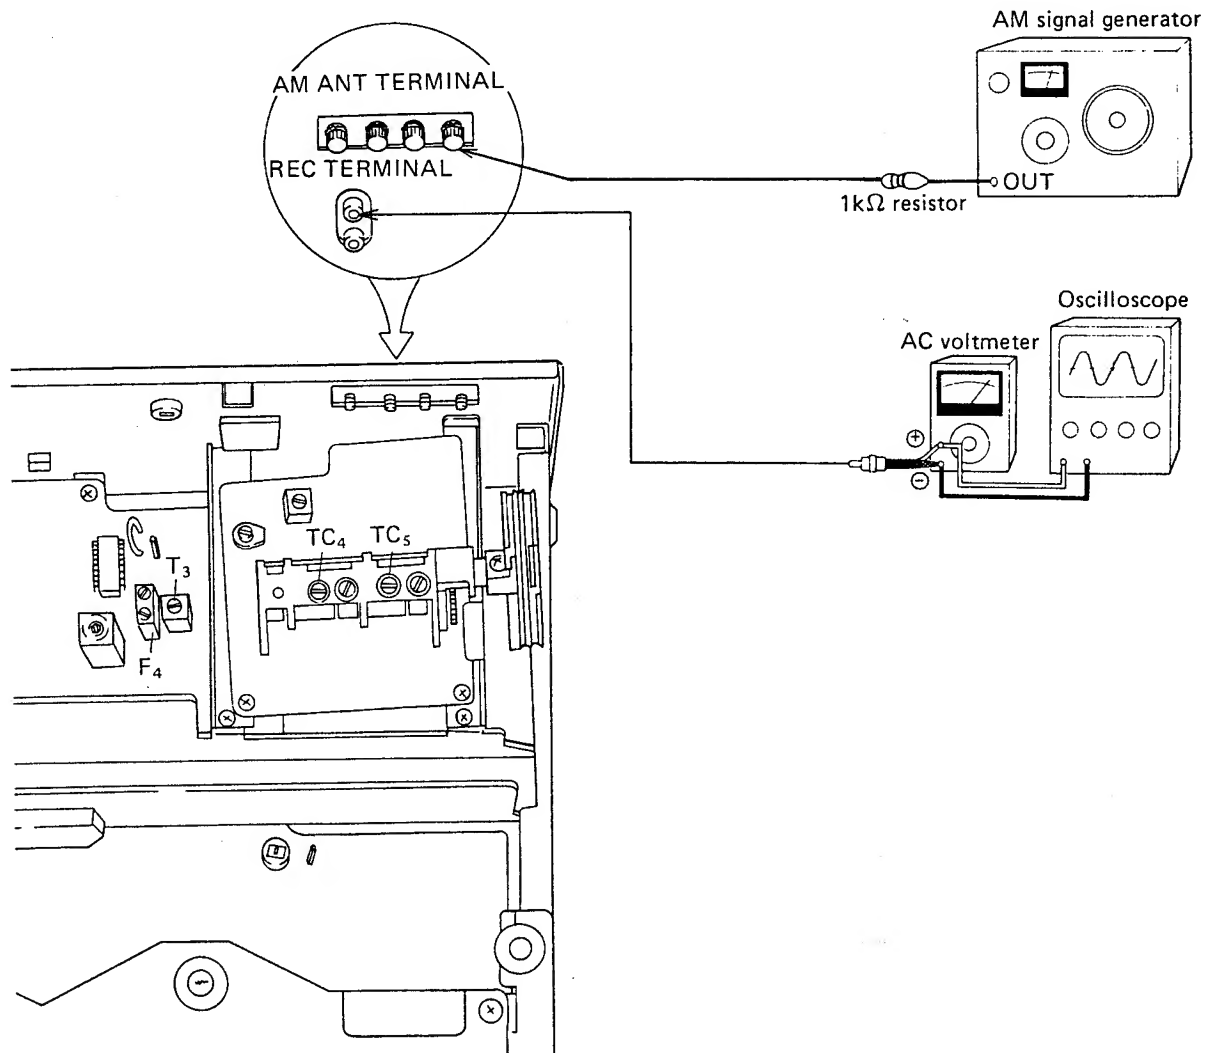

Fig. 8 Connection diagram
1. Connect up the test instruments as shown in Fig. 8.